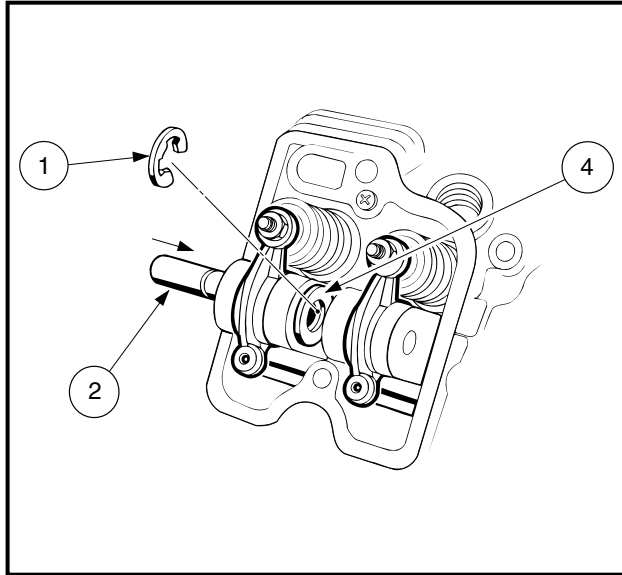
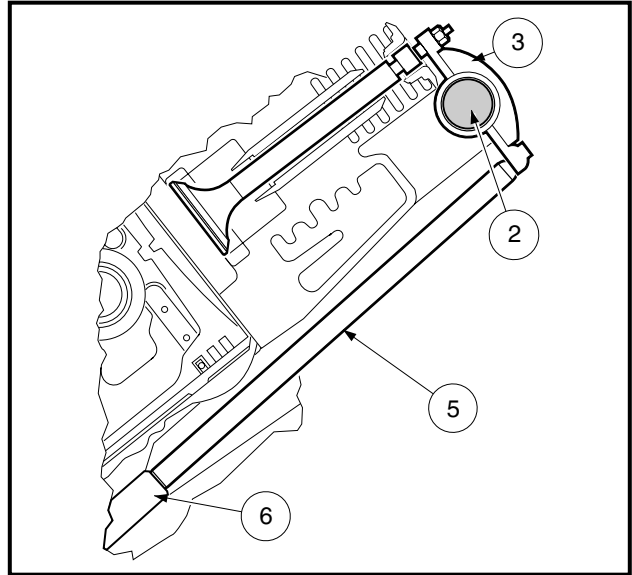

Figure 2-31 Rocker Arm Assembly
Figure 2-32 Cylinder Head Installation
2. Position each push rod (5) between the rocker arm (3) and the tappet (6), then insert the rocker shaft (2) through the head posts and rocker arms (3) and washer (4) (**Figure 2-31, Page 2-17 and Figure 2-32, Page 2-17**).
3. Slide the washer (4) against the exhaust rocker and fit the E-ring (1) into the groove in the rocker shaft (2) (Figure 2-31, Page 2-17).